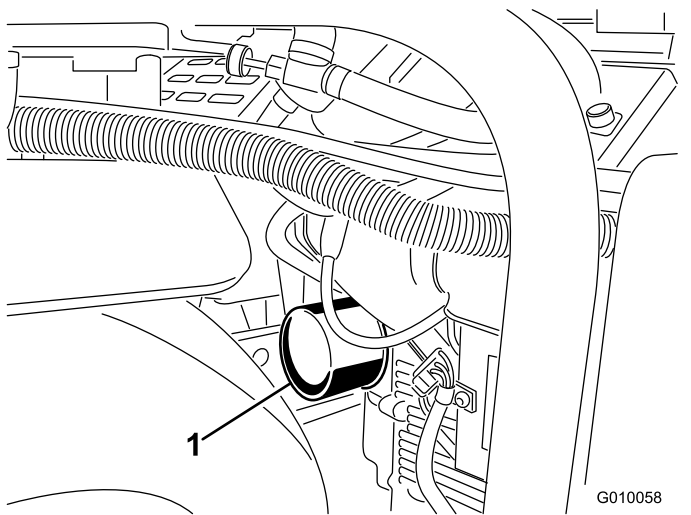
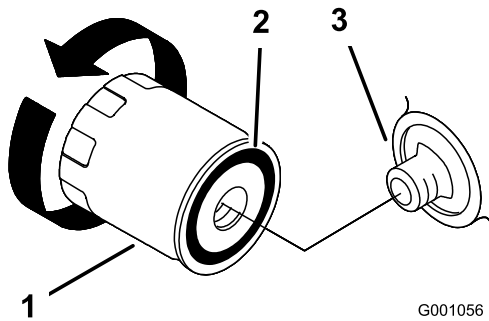

Figure 47
Figure 48
5. Place a shallow pan or rag under the filter to catch oil (Figure 47).
6. Remove the old filter (Figure 47 and Figure 48) and wipe the surface of the filter adapter gasket.